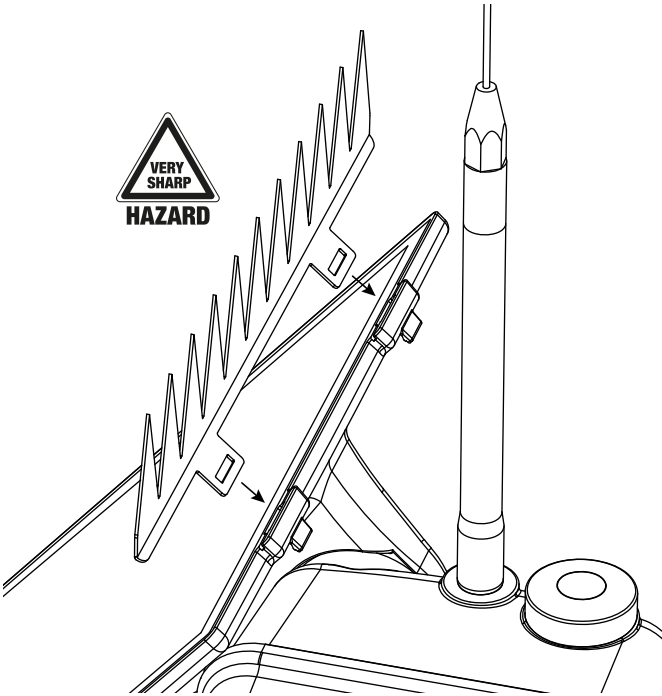

Figure 12. Bird Deterrent Mounting
- Remove bird deterrent from packaging (located below the box containing the C3 Module). Affix the deterrent to the top of the solar panel by sliding it into the two slots, as shown in Figure 12. Be cautious of the sharp edges.